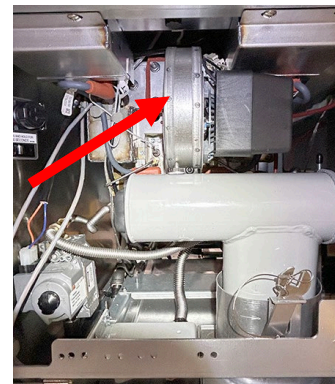

Figure 22
24. Disconnect the two (2) wire blower wiring harness (see Figure 22).